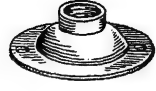

Fig. 229. Brass
*Wall Plates.* Figure 229 shows the type of wall plate used for connecting a lamp socket to a wood lamp post. Plates are furnished with outside or inside thread.